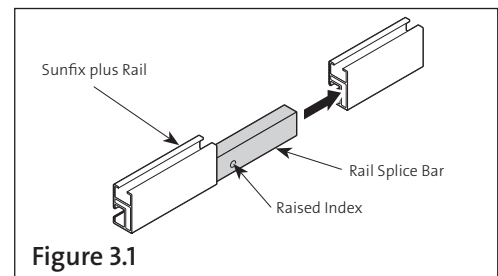

Figure 3.1
- 3.1. To connect rail sections, Sunfix plus utilizes a loose fitting, fastener-free Rail Splice Bar ⑧ to allow for transfer of load and thermal expansion/contraction. To install, insert the Rail Splice Bar into the rails until the raised index touches the rail end, as shown in **Figure 3.1**.